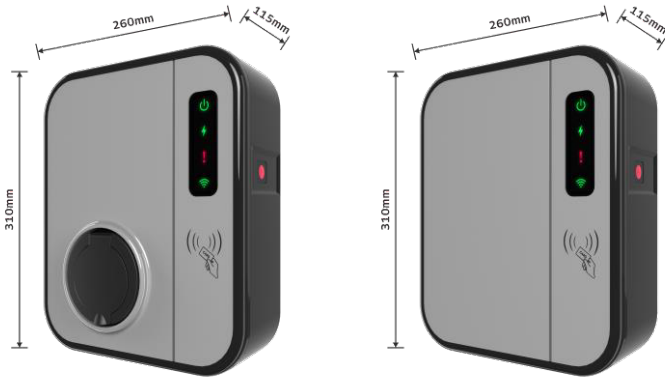

Fig. 4-1 The shape & dimensions of INJET ECO
- The shape & dimensions of INJET ECO AC EV charging station shown as Fig. 4-1.